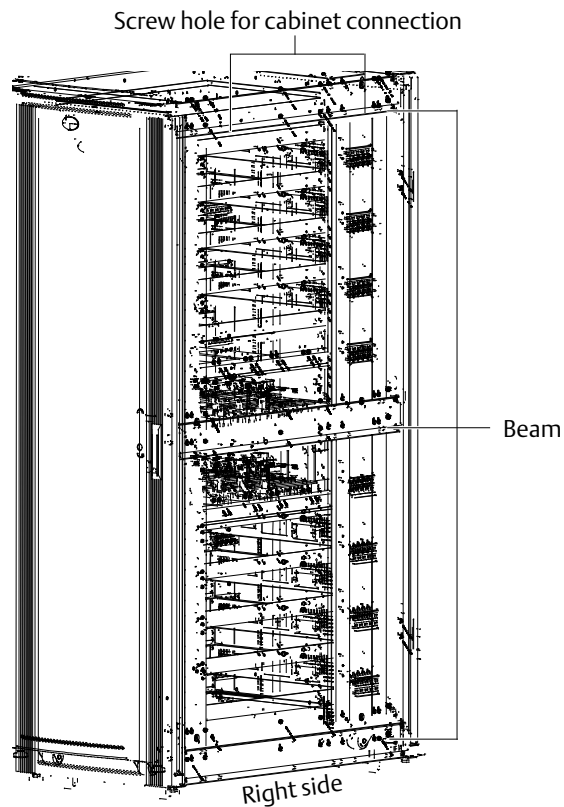

Figure 2-2 Screw holes for cabinet connection on main power cabinet
1. Place the main power cabinet and switch cabinet closely side by side, with the main power cabinet on the left side and the switch cabinet on the right side, as shown in Figure 2-2.
3. Open the front door of the switch cabinet and remove the cover (see Figure 2-2) at the front.
4. Connect the cabinets with screws: There are two screw holes for cabinet connection (see Figure 2-2) in the same positions of each beam (totally three beams) on the right side of the main power cabinet. In the corresponding positions on the left side of the switch cabinet, there are also three beams; and in the same